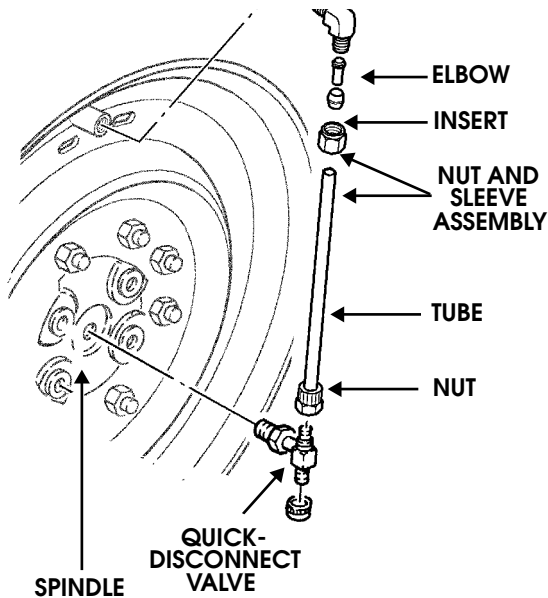

Figure 6-80: Quick-Disconnect Valve Assembly
3. Remove tube and nut from quick-disconnect valve (Figure 6-80).
1. Install quick-disconnect valve into spindle (Figure 6-80).